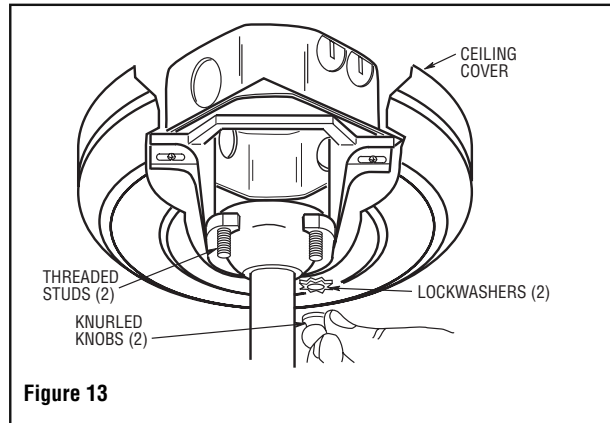

Figure 13
7. Lift the ceiling cover up to the threaded studs and turn until studs protrude through the holes in the ceiling cover (Figure 13).
8. Secure the ceiling cover in place by sliding lockwashers over the threaded studs and installing the two knurled knobs (supplied). (Figure 13). Tighten the knurled knobs securely until the ceiling cover fits snugly against the ceiling and the hole in the ceiling cover is clear of the downrod. Your fan is now wired to be turned on and off from the fan switch.